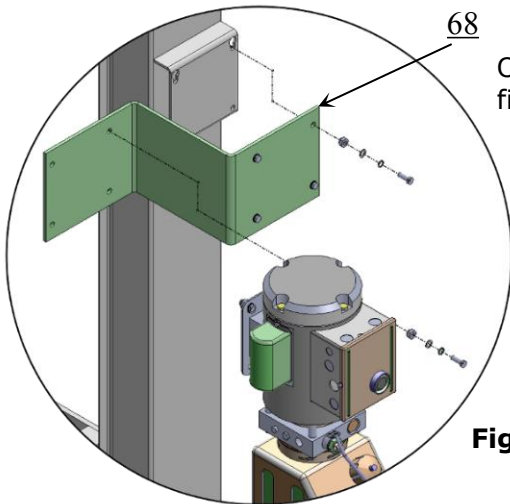

Fig. 35
2. Install optional motor fixing bracket (See Fig. 35, 36).